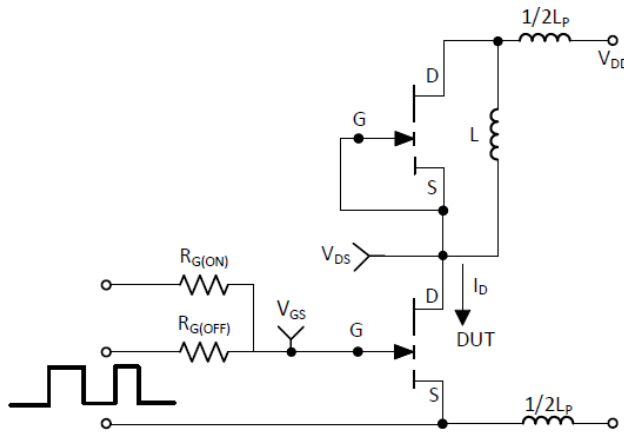

Figure 17: Switching Loss Test Circuit
(6) L_p is the switching circuit parasitic inductance.
(7) See Figure 17 for switching loss test circuit.